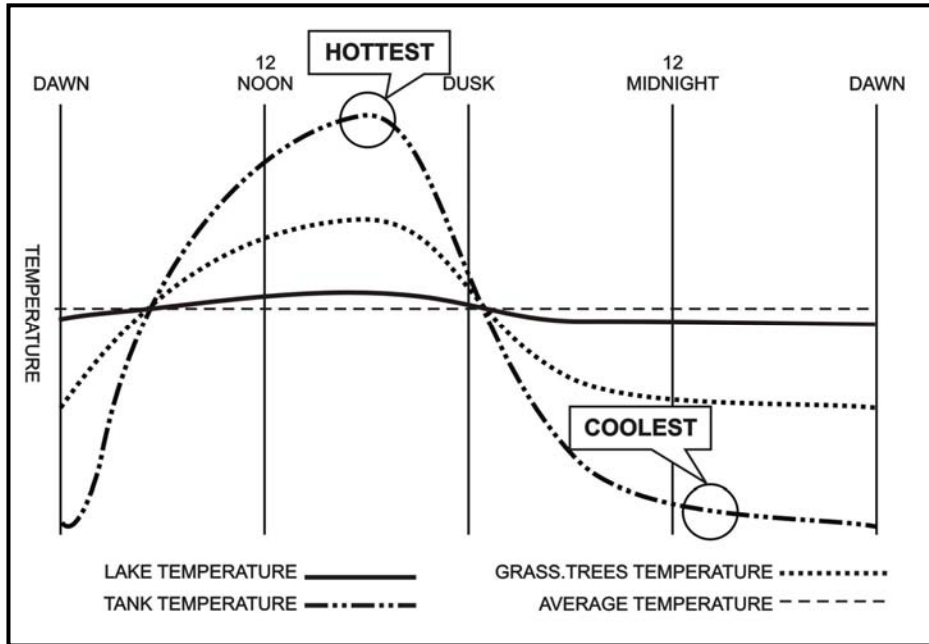

Figure C-10. Temperatures of objects during 24-hour period.
e. **Delta-Ts Over a 24-Hour Period.** The temperature relationship between one object and another changes during the day due to heating and cooling as the sun rises and sets (Figure C-10, page C-8).